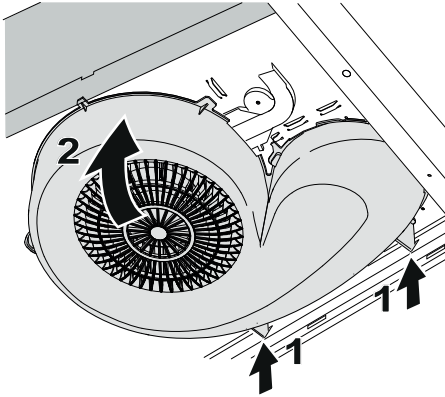

Fig. 7
Refit the blower by inserting the supports in the rear of the hood (1). Bend up the blower (2).Fig. 7